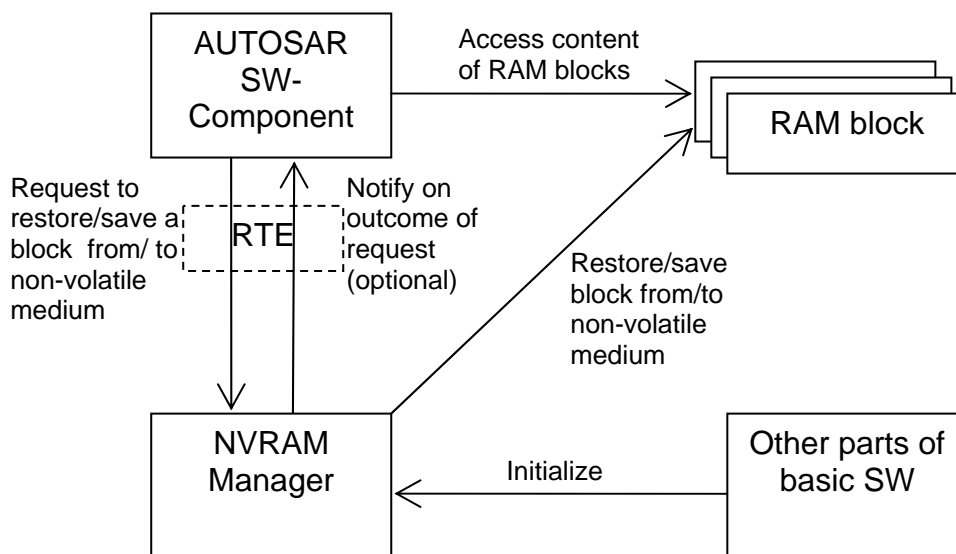

Figure 21: Explicit update/restore of mirror RAM blocks
See Figure 21. This is a summary of use cases in which the client explicitly requests to save or restore the content of a mirror RAM block from/to non-volatile memory (e.g. in order to decrease the risk of data loss). But as in the first case, RAM blocks are permanently associated with their counterparts in NVRAM. Now we need direct communication (in the sense of the VFB) between the NvM module and its client. Also in this case, the NvM module does NOT communicate with its client via the RAM blocks. In this case, the client must use an AUTOSAR interface to communicate with the service.
- On the states (of the ECU and/or the client component) in which the client may request to restore or save RAM blocks. For this contract, it is essential that the client is informed about its activation/termination or relevant ECU states. This communication path has to be handled by the RTE in cooperation with the ECU State Manager (not visible in Figure 21).